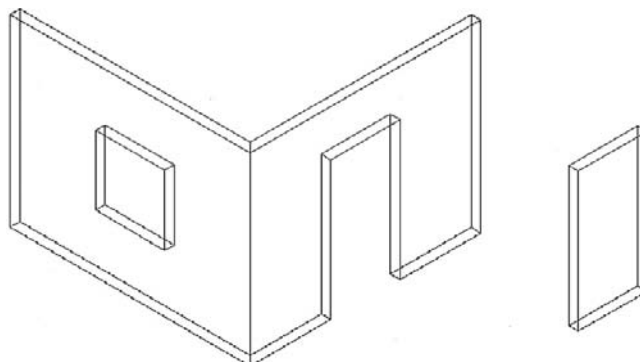
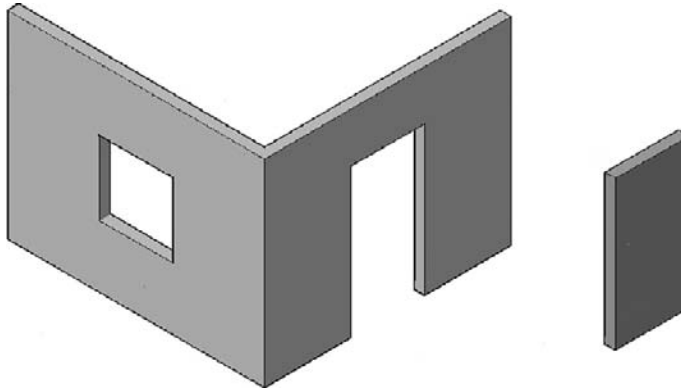

FIGURE 24.15
FIGURE 24.16
- Step 6.** Go ahead and subtract out the window and the door. Figure 24.15 shows what you see in wireframe mode. Figure 24.16 shows the same thing in shaded mode with color added.